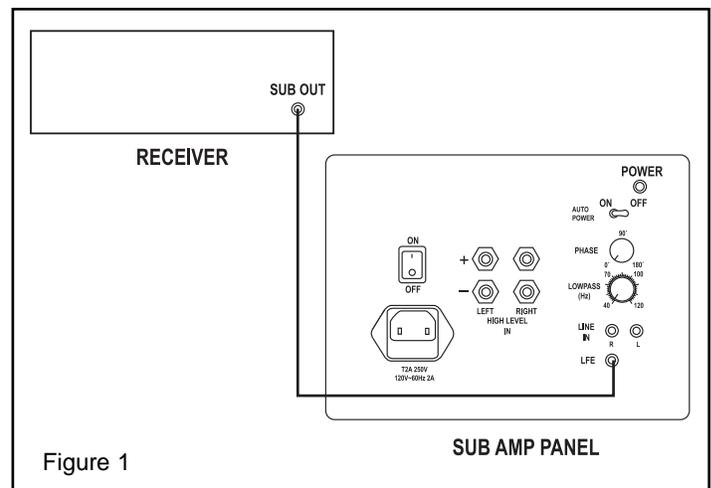

Figure 1
**Digital Surround Receiver or Processor Connection** — Today's Dolby Digital® (AC-3) and DTS® digital surround receivers and processors have line-level subwoofer outputs and built-in subwoofer crossovers. If your system is built around one of these, it will almost always be best to connect the subwoofer output on the receiver or processor to the subwoofer's LFE Direct input. (See Figure 1.) This will bypass the subwoofer's internal crossover and should only be done if these can be managed internally in the receiver. Use a shielded, high quality subwoofer interconnect cable of appropriate length with RCA plugs on each end. Your dealer can help you select a suitable cable. Be sure to go into your receiver or processor's speaker setup menu and set Subwoofer to "On" or "Yes." Your receiver or processor may have additional bass management abilities beyond simply activating the subwoofer output. Consult your receiver or processor's owner's manual or your dealer for more information on the proper bass management settings for your system.